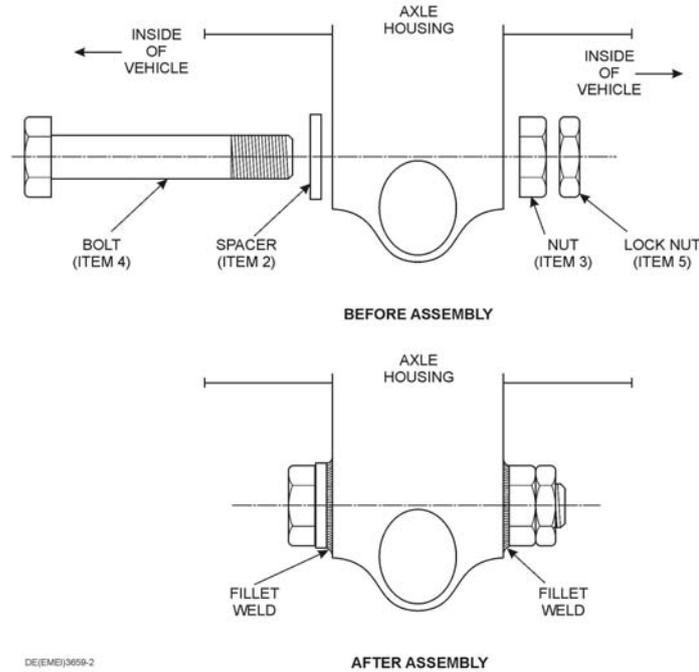

Figure 104 Rear Lower Link
- g. Fit items 2, 3 and 4 from Table 11 to the axle case mounts, (Figure 104), ensuring that the bolt is fitted from inside to out and is parallel to the axle casing centre line Tighten the bolts firmly.
- h. Weld the inside spacer and the outside nut to the axle casing mount, (Figure 104), with a 3 mm continuous fillet weld, using either:
- (1) Manual Metal Arc Welding (MMAW) process using electrodes conforming to AS/NZS 4855: E4918 Welding Consumables – Covered Electrodes for Manual Metal Arc Welding of Non-alloy and Fine Grain Steels; or
- (2) Gas Metal Arc Welding (GMAW) process using consumables conforming to AS/NZS 2717.1: ES6-GC/M-W503AH and shielding gas Argoshield Standard.